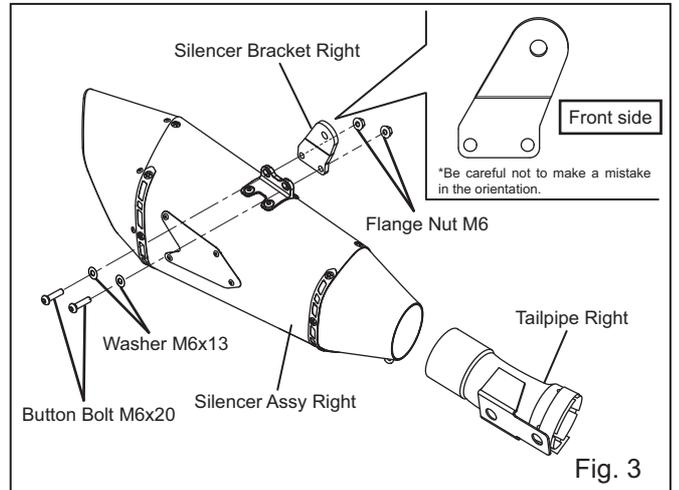

Fig. 3
- 5) Attach Silencer Bracket Right on to Silencer Assy Right with 2 of each Button Bolt M6x20, Washer M6x13 and Flange Nut M6 (See Fig. 3 & 4). Tighten the bolts by hand only at this stage.
- 6) Install Silencer Assy Right to Tailpipe Right (See Fig 3).